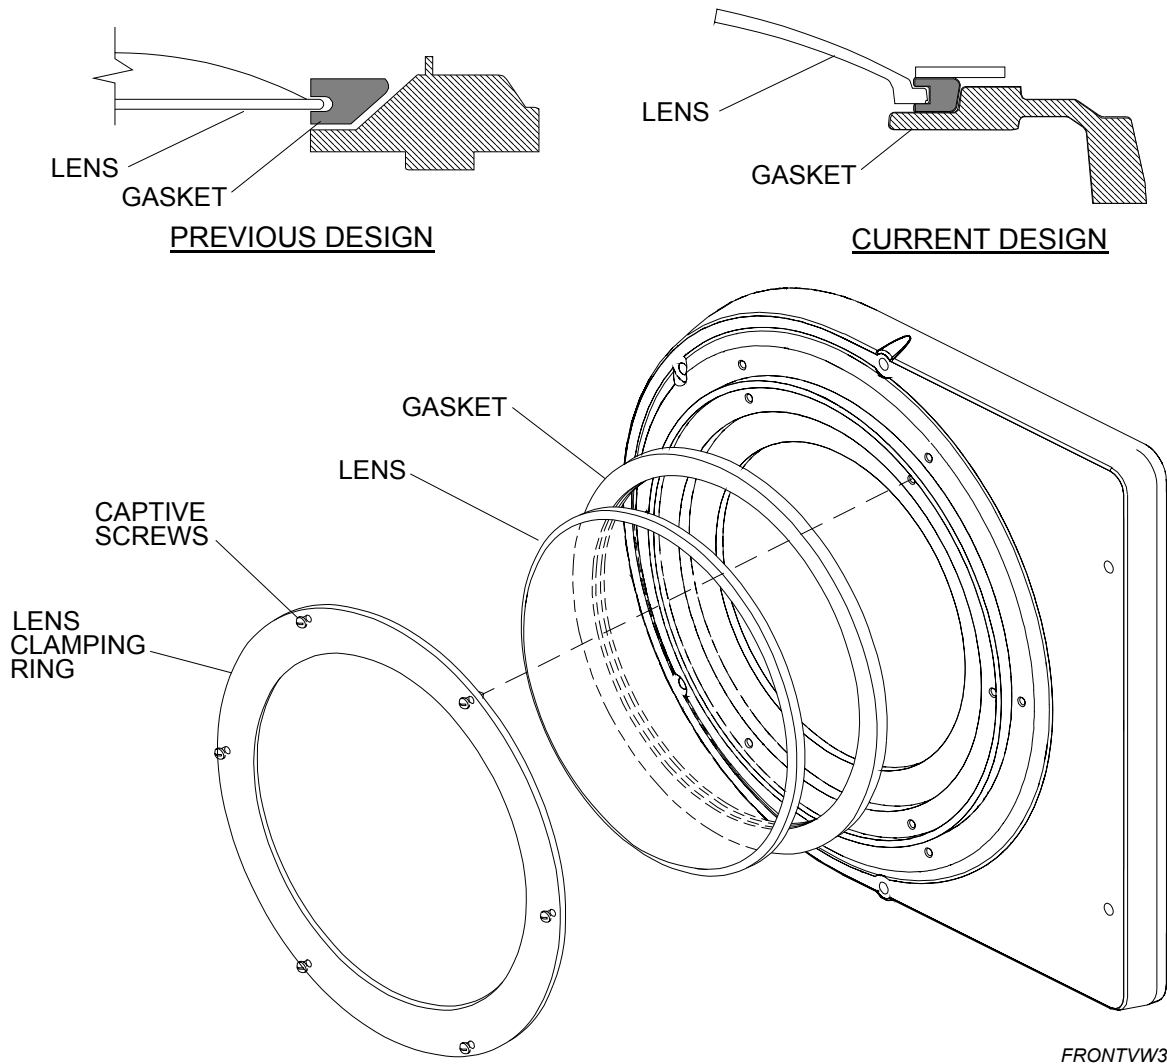

Figure 6.2 - Replacing the Lens.
1. Using flat screwdriver, loosen captive screws securing lens clamping ring to head enclosure front cover (Figure 6.2). Gradually loosen in diagonal cross pattern to prevent damage to lens clamping ring.